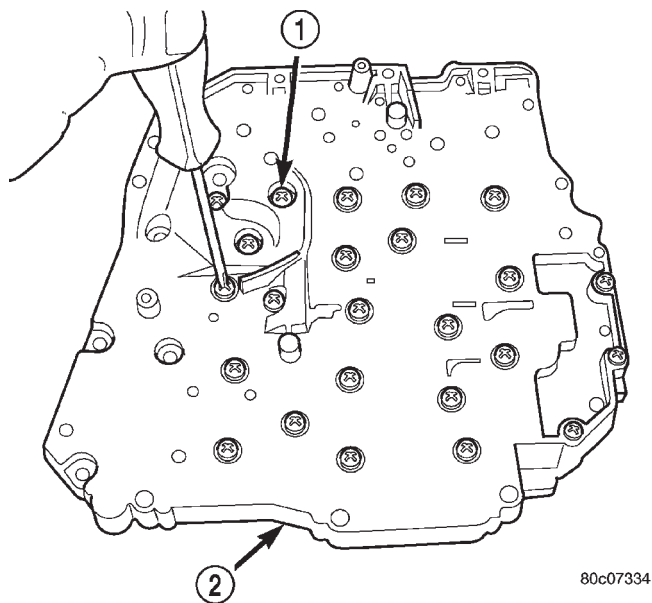

Fig. 124 Transfer Plate-to-Valve Body Screws
- (6) Invert valve body assembly and remove transfer plate-to-valve body screws (Fig. 124).